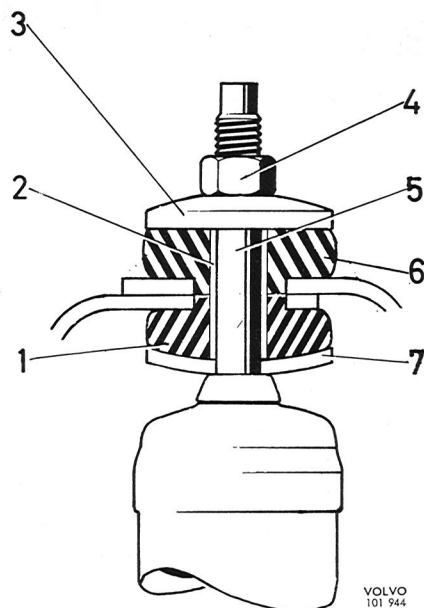

Fig. 7-8. Upper attachment, front shock absorber
3. Check the upper attachment for the shock absorber lower washer and rubber bushing (7 and 1, Fig. 7-8). Position the shock absorber and tighten its attachments.
The front shock absorber upper attachment (Fig. 7-8) consists of a spindle (5), which is fixed into a housing in the front axle member with upper bushings (1 and 6), washers (3 and 7) and a spacer sleeve.
1. Remove the upper nut (4, Fig. 7-8), the washer (3) and the rubber bushing (6).